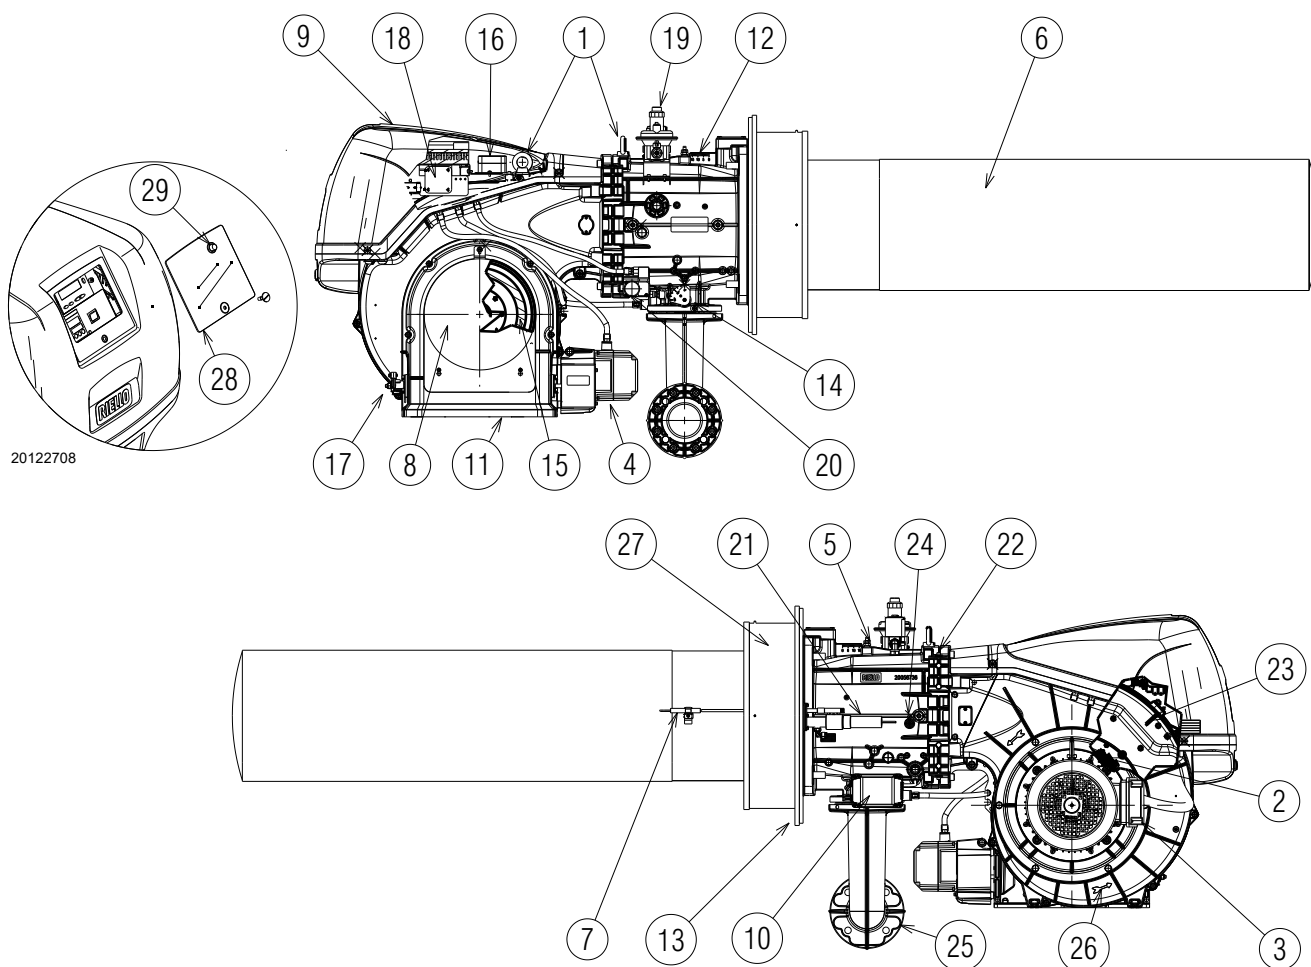

Fig. 3
(2) Pressure at the test point 5)(Fig. 3 on page 11) with zero pressure in the combustion chamber and at maximum burner output.